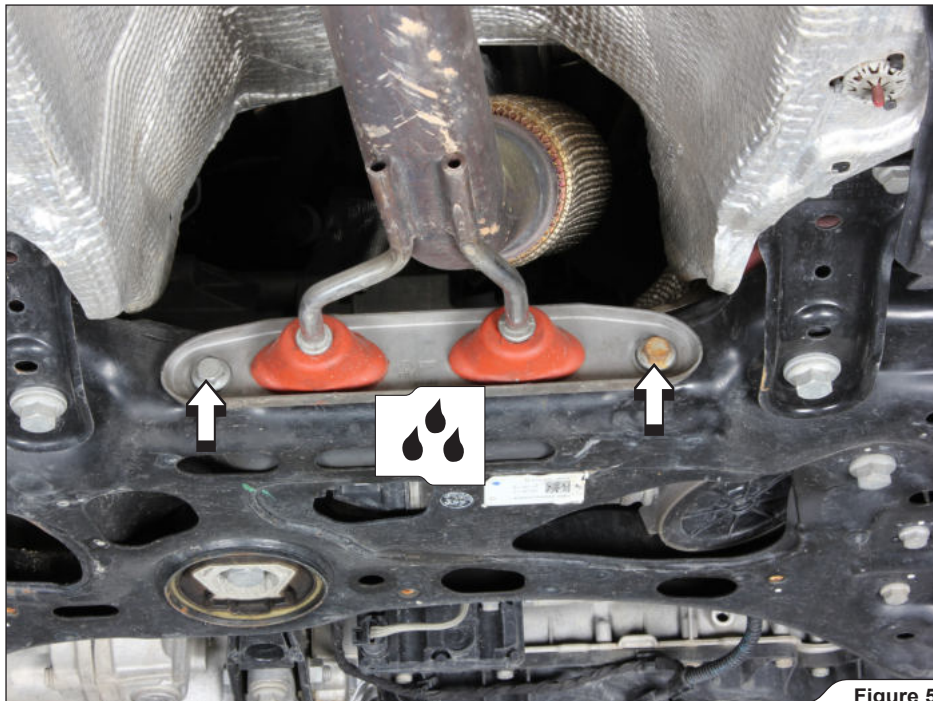

Figure 5
5. Unscrew the marked bolts and remove the bracket off the stock down pipe (**Figure 5**).